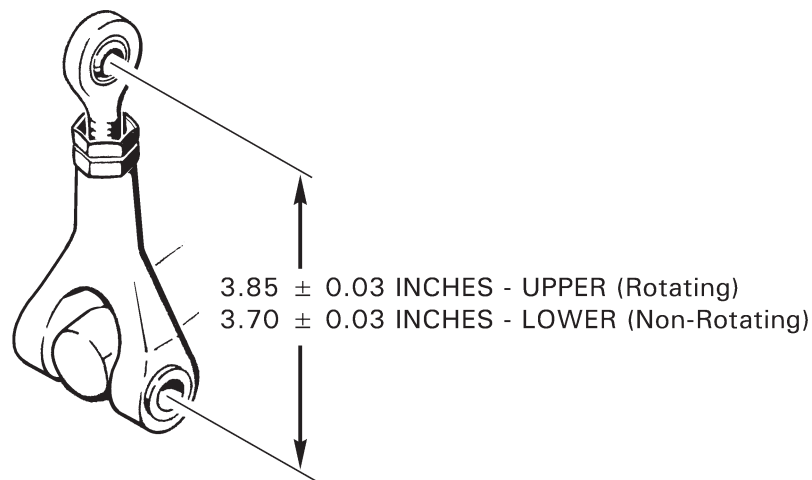

FIGURE 18-9 A205-5 SWASHPLATE FORK RIGGING
7. Refer to Figure 18-9. Adjust swashplate A205-5 lower fork assembly (non-rotating) to 3.70 ± 0.03 inch, and upper fork assembly (rotating) to 3.85 ± 0.03 inch.